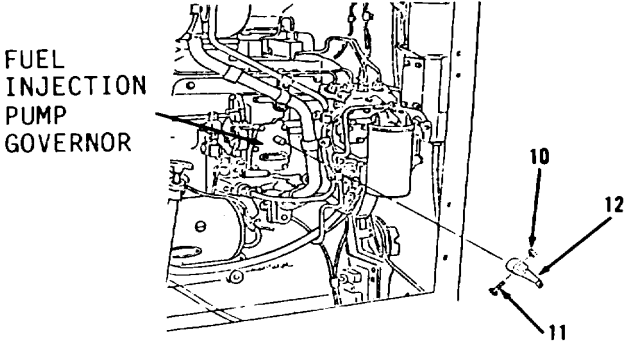
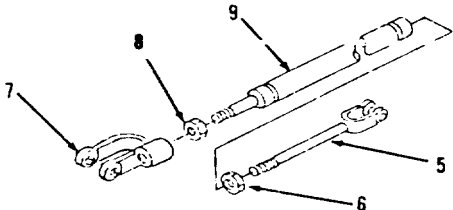

Figure 3-154.
Figure 3-153.
- 65. Aline fuel injection pump governor shaft and lever (12, Figure 3-154) with matchmarks on fuel injection pump governor.
- 66. Install bolt (11) and nut (10).
- 67. Install nut (8), rod end (7), nut (6) and rod (5) loosely on link (9, Figure 3-153).